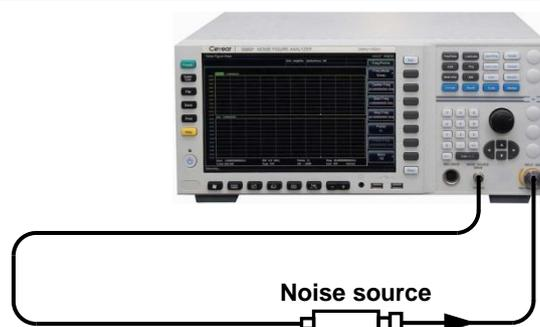

Fig. 3.30 Calibration connection
**Step 3.** Connect the noise source output directly to the NFA input, as shown in Fig. 3.30.